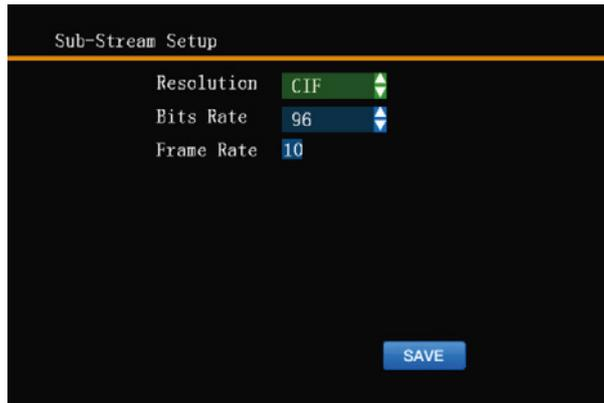

Figure 3-16
3.4-4 Sub-Stream (Figure 3-16)